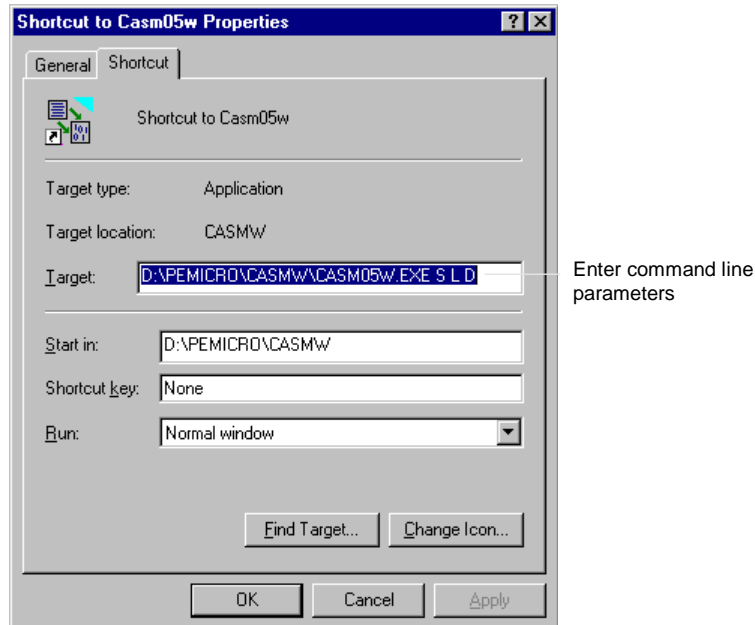

Figure 5-2. Windows 95 Program Item Property Sheet (Shortcut Property for CASM05W.EXE)
You can pass parameters to the assembler by modifying the command line in the Program Item properties in Windows, as shown in Figure 5-2.
1. If the program is not running, right-click its icon on the Windows desktop, or its shortcut entry in a folder or Windows Explorer window to open the *Shortcut Properties* sheet (Figure 5-2).